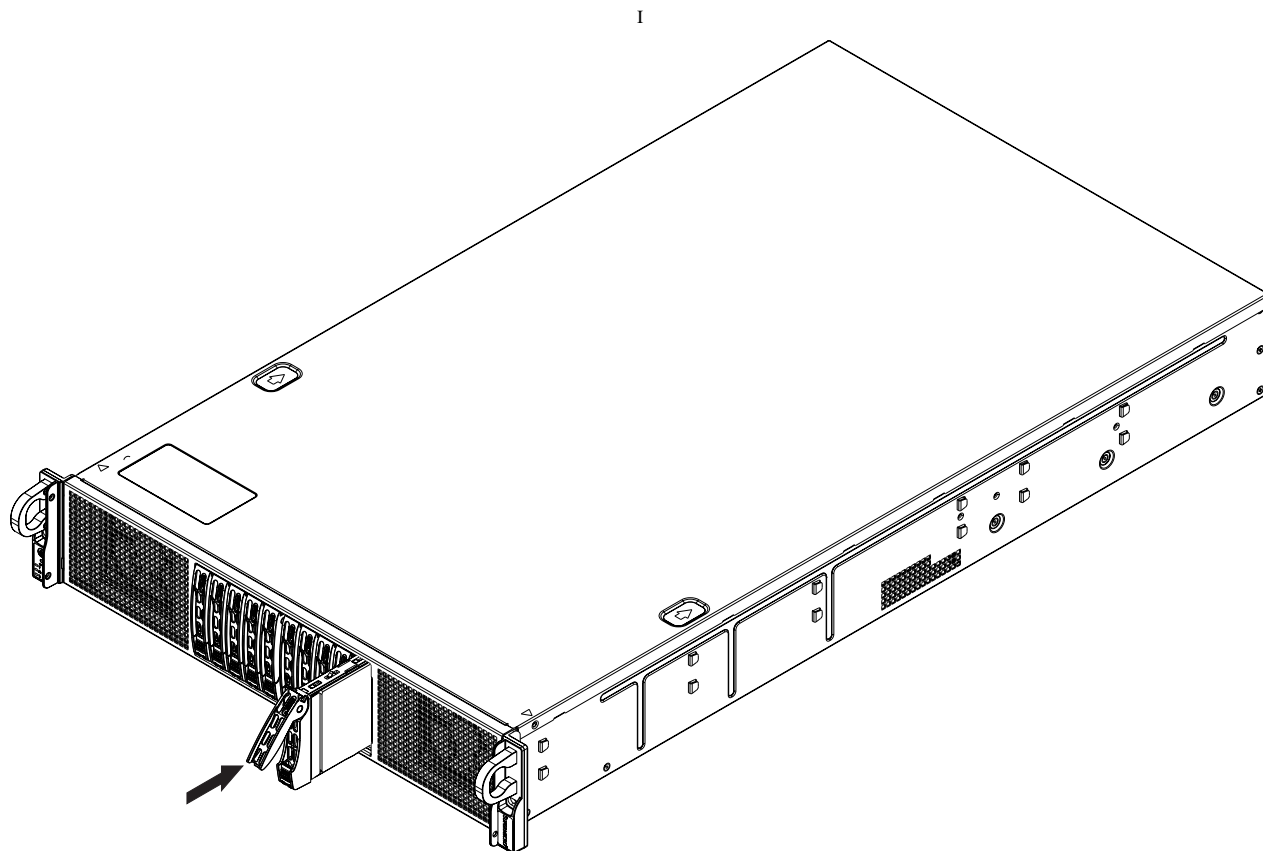

Figure 6-3 System Hard Disk Installation Example
6. Using your thumb, push against the upper part of the hard drive handle until the assembly clicks into the locked (fully seated) position, see Figure 6-3 on page 47 for an example.